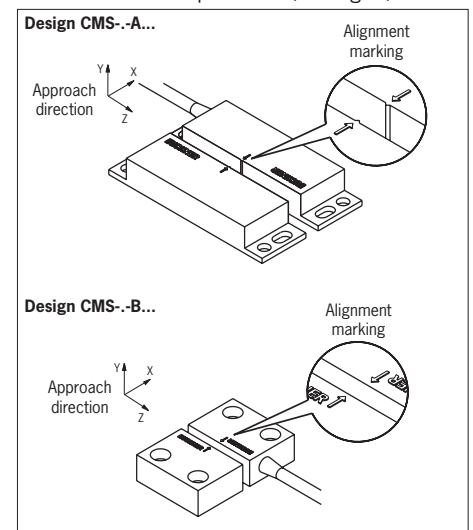

Fig. 1: Alignment of read head and actuator
The read head and actuator may be installed in any position. The alignment of the read head and the actuator must be kept in mind (see Fig. 1).
- when the guard is closed, the active read head and actuator faces are exactly aligned (see Fig. 1)
- If the approach speed between the read head and the actuator is low, the approach direction Z (see Fig. 1) should be avoided.